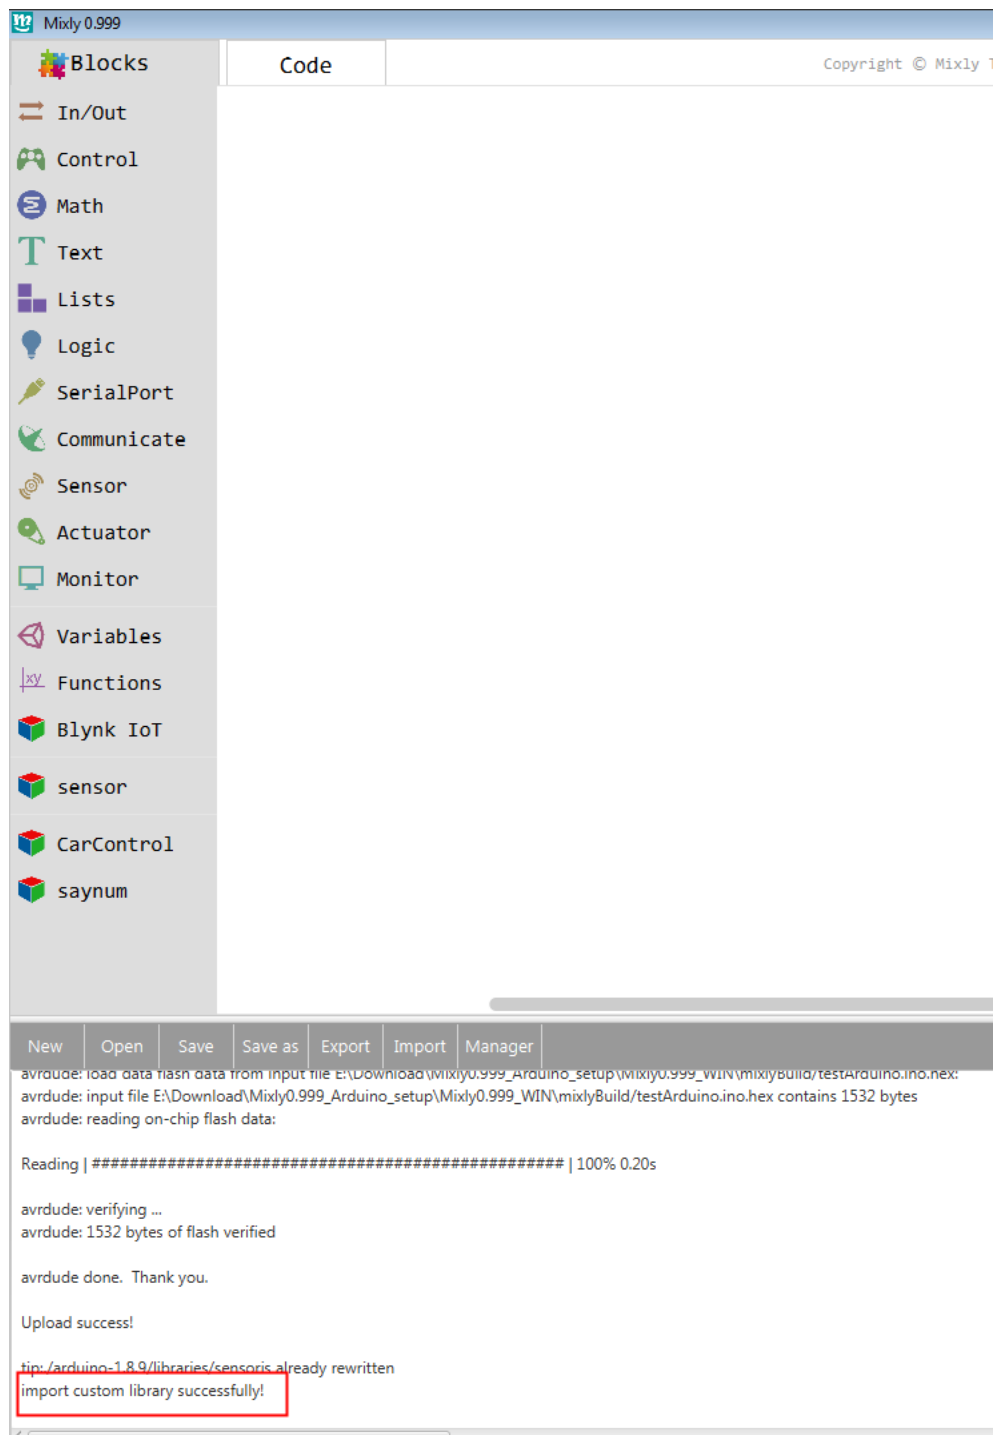

Figure 2-3
- 4) After the import is successful, the prompt area will display: Successful import of custom library! And in the library module area, you can see the sensor library module as shown in Figure 2-3;